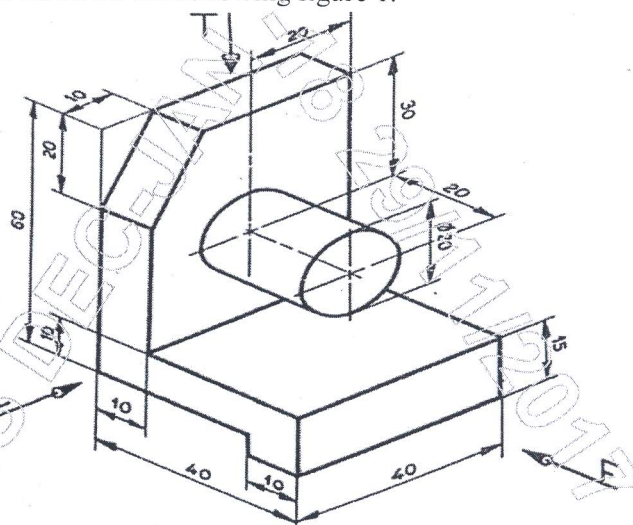

Figure 1
- Q.No.2** Draw the orthogonal views for the following figure 1. **(15 Marks)**